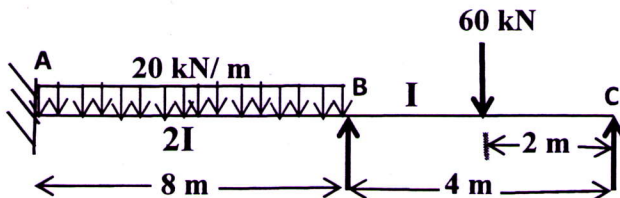

Figure 6
- 16 Analyse the beam shown in the figure 6 using Moment distribution method and plot the bending moment diagram. 14